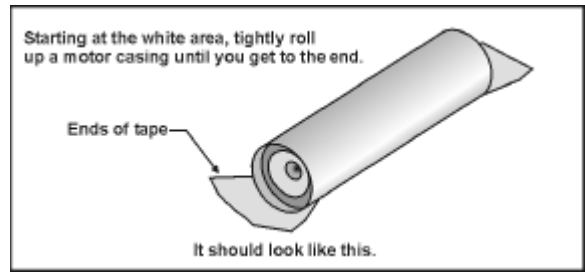

Figure 6
- Using an 18mm motor casing (A8-3, for example), and starting from the **WHITE** end of the Engine Tube Pattern, begin to tightly roll the motor casing in the Engine Tube Pattern. As you roll the motor casing up, the first piece of tape will stick itself to the inside of the forming tube, preventing glue from oozing onto the motor casing. Continue rolling for one more full revolution, resulting in the second piece of tape securing the end of the Engine Tube pattern in place while drying. The final formed tube should look like that shown in **Figure 6**. Check to make sure that no glue oozed onto the motor casing then set aside to dry.